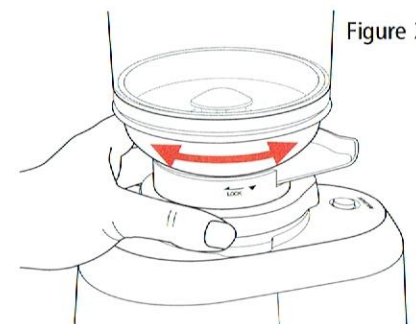

Figure 2
6. Select the grind by turning the grind adjustment collar to the desired setting, see figure 2.